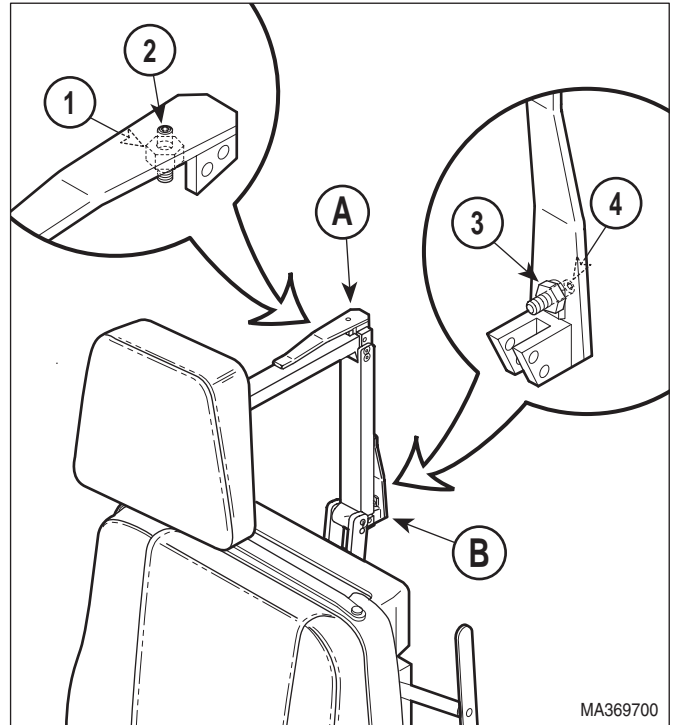

Figure 4-47. Headrest Handles Handle Stops Adjustment
- (1) Loosen nut (1, Figure 4-47).
- (2) Push on upper lock handle (A) until it reaches a point where the upper lock handle wants to lock itself by going over center; then allow upper lock handle to go over center a few degrees. Hold the upper lock handle in this position and adjust stop screw (2) so the upper lock handle will be forced to stop in this position each time it is locked.
- (3) Tighten nut (1).
- (4) Loosen nut (3).
- (5) Push on lower lock handle (B) until it reaches a point where the lower lock handle wants to lock itself by going over center; then allow lower lock handle to go over center a few degrees. Hold the lower lock handle in this position and adjust stop screw (4) so the lower lock handle will be forced to stop in this position each time it is locked.
- (6) Tighten nut (3).